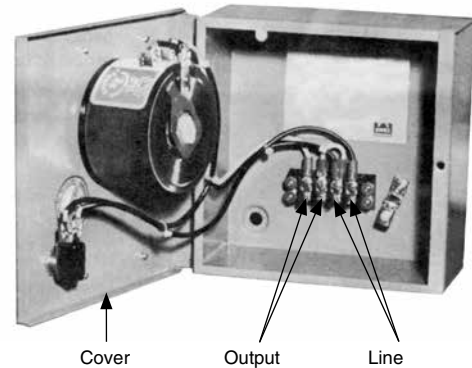

FIGURE 4
1. Check the supply voltage and frequency and make certain that they are the same as those shown on the nameplate of the Feeder and Control (See Figure 4).